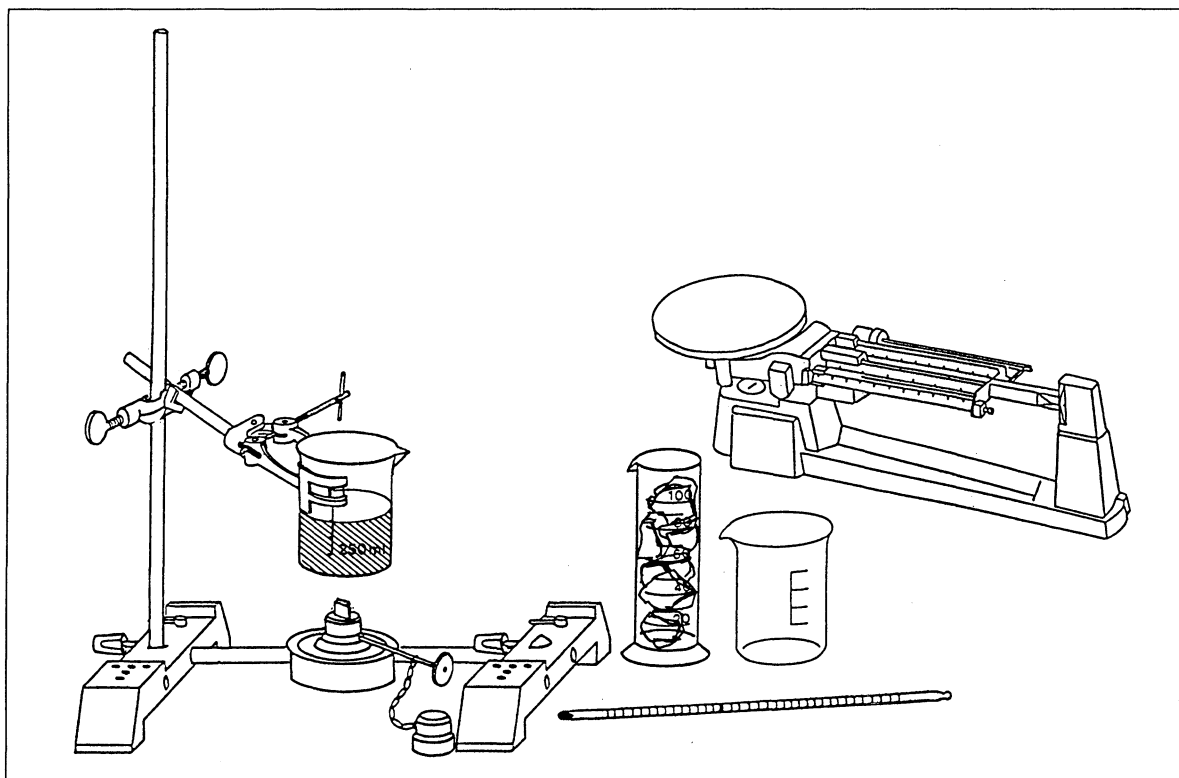

Fig. 1 Setup for melting ice using hot water
1. Set up the apparatus as shown in fig. 1.